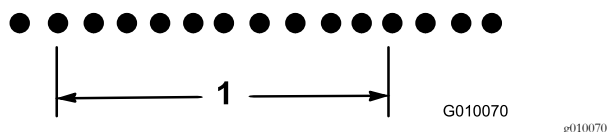

Figure 65
18.8 divided by 10 is 1.88, hole spacing is short by 0.12 inch from nominal (Figure 65).